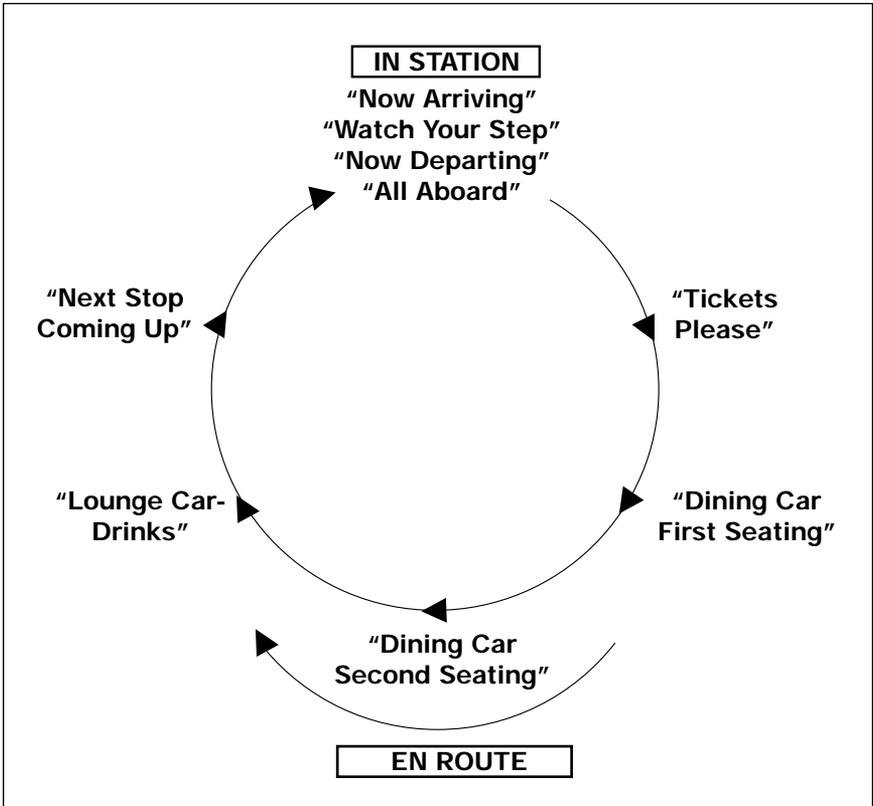

Figure 1. StationSounds on a round trip
**Note!** Announcements using  are “station” announcements, and those using  are conductor/steward announcements. Refer to Figure 1 on the following page to see how StationSounds operates on a round trip.